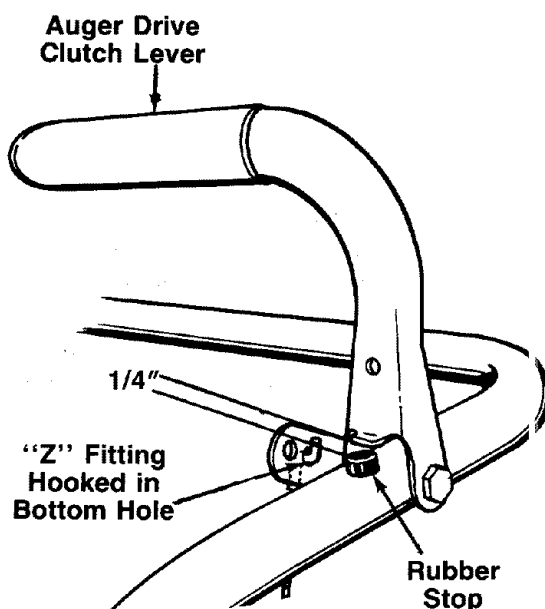

FIGURE 14.
1. Hook the "Z" fitting on the end of the auger cable into the bottom hole in the auger drive clutch lever (left hand side of handle). Hook the fitting from the inside to the outside as shown in figure 14.
2. Raise the clutch lever so it is approximately  $\frac{1}{4}$ " away from the rubber stop on the handle, as shown in figure 14. With the clutch lever in this position, thread the ferrule onto the end of the auger cable until it lines up with the hole in the auger bracket.